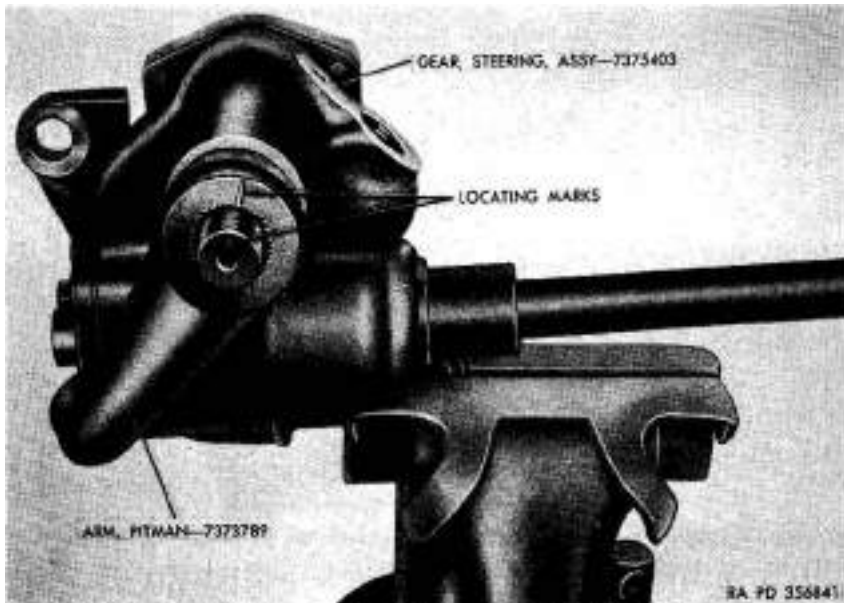

Figure 168. Correct location of pitman arm on pitman arm shaft.
- (1) Install pitman arm shaft seal (Z) in steering gear housing (counterbore side out).
- (2) Install pitman arm (Y) on pitman arm shaft with ball toward steering gear housing. Locating marks on pitman arm and pitman arm shaft (fig. 168) must be in alignment. Install pitman arm lock washer (X) and pitman arm nut (W). Tighten nut to specifications indicated in paragraph 354 with a torque indicating wrench.